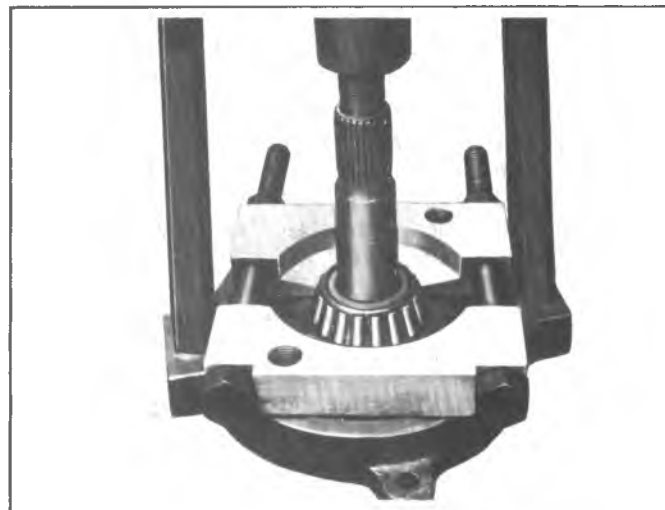

Fig. 17B--Removing Drive Pinion Rear Bearing
3. Remove rear pinion bearing from pinion shaft using press plate J-8612 for 8-1/2" ring gear and J-22912 for 8-7/8" J-22912-01 for 9 1/2" ring gear as shown in Figure 17B.